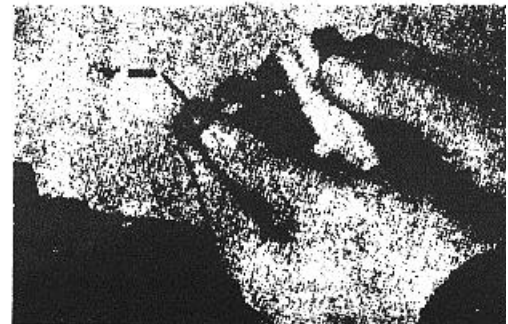

Figure 4-76. Installing "O" ring gasket on shut-off valve
19. Mount the shut-off valve assembly with a new "O" ring. Fig. 4-76.